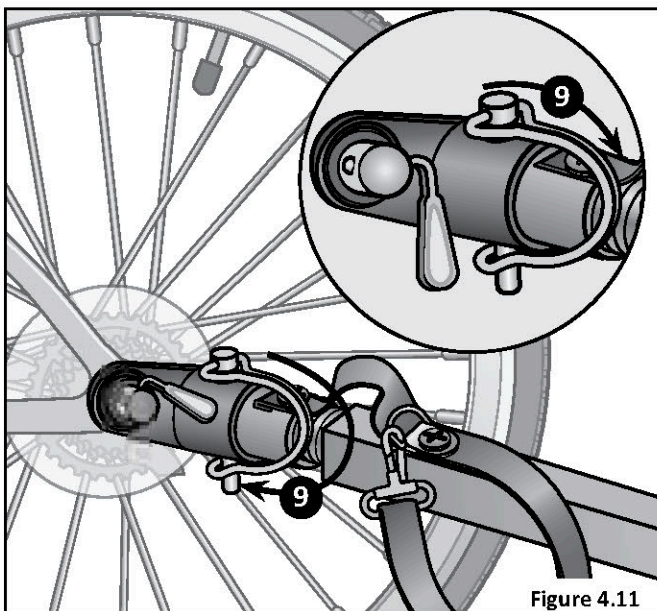

Figure 4.11
9. Slide the safety loop over the end of the lock pin. **Figure 4.11**